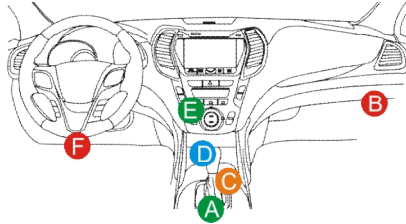

Figure 2-2
2. Locate vehicle's DLC socket: Refer to figure 2-2 for the location.